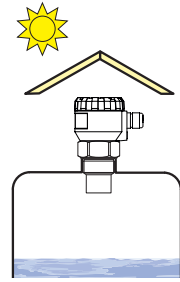

Fig. 13: Solar radiation shielding cover
- Rotating **mixer blades** can cause that the surface is stirred, which results in false reflections of the ultrasonic signal from the surface level and unreliable operation of the level meter (Fig. 13). **For a rippled or swirling level, you can use the directional horn to eliminate scattering of the ultrasonic signal.**
- If the installation in places with direct solar radiation is inevitable, it is necessary to mount a **shielding cover** above the level meter (Fig. 13).